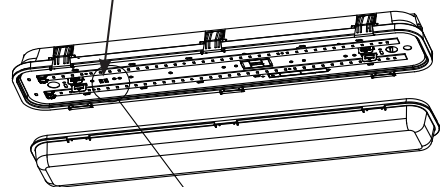

Fig: 7
2. Locate the **Field Adjustable Switches** on the back of the **Heat Sink Assembly** as shown in Fig. 7.